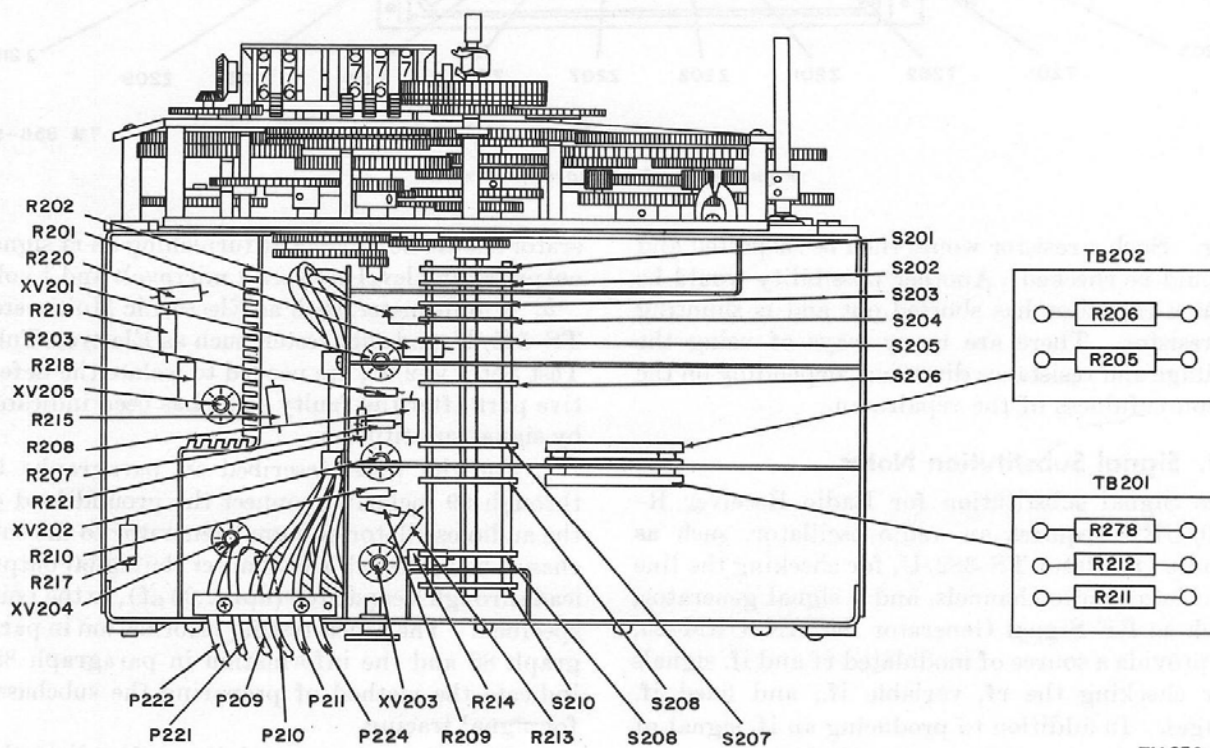

Figure 64. Rf subchassis, bottom view.
c. The calibration-oscillator signal can be used as a convenient means of quickly localizing trouble in the receiver. Typical methods are described in (1) and (2) below.
- (1) To check the contacts of the rf band switch (S201 through S210) (fig. 64) and crystal-oscillator band switch (S401 through S404) (fig. 66), connect a headset to the PHONES jack on front panel. Set the FUNCTION switch at CAL. Set the KILOCYCLE CHANGE control to any 100-kc position. Starting with the lowest detent position of the MEGACYCLE CHANGE control, turn the control to each detent position in succession. Adjust the BFO PITCH control as necessary to obtain a signal in the headset. If no audible signal is heard in a detent position, trouble in contacts of the rf band switch or crystal-oscillator band switch is indicated.
- (2) The LINE LEVEL meter, LINE METER switch, and LINE GAIN control are checked as follows: connect a headset to the PHONES jack on the front panel and adjust the KILOCYCLE CHANGE control for an even 100-kc reading on the dial. Set the FUNCTION switch at CAL and turn the BFO
a. *Pin 1 of V205 (Plate of Third Mixer).* Introduce the 455-kc modulated signal at pin 1 of tube socket XV205 (fig. 64). If no signal is heard, check transformer T207 and the signal connections to the if. subchassis.
to test point E210 (fig. 62). If no output signal is heard, connect an antenna or a 2-mc signal source to the antenna terminals of the receiver, and, at the same time, apply a strong 2,455-kc unmodulated signal to pin 7 of tube socket XV205 (fig. 64). The reception of static or signal when the 2,455-kc signal is substituted for the receiver oscillator signal indicates a faulty vfo. To check for injection voltage from the vfo, set the FUNCTION switch at STANL BY, and measure the dc voltage using the vtvm at test point E210 (fig. 62). The voltage should be between 3 and 11 volts dc. (This is a reference voltage only.) This voltage is present because tube V205 is rectifying the vfo oscillator signal. If the voltage is within these limits, injection voltage from the vfo is available. Measure the amount of injection voltage from the vfo by disconnecting P723 (fig. 88) and connecting the ac probe of Electronic Multimeter TS-505/U to the
c. *Pin 1 of V204 (Plate of Second Mixer).* With the FUNCTION switch at MGC, apply the modulated 2-mc signal to pin 1 of tube socket XV204 (fig. 64). A weak output signal may indicate that plate resonant circuits Z222, Z223, and Z224 are not synchronized with the other tuning circuits (par. 110a) or are not individually aligned correctly.
modulated signal to pin 1 of tube socket XV203 (fig. 64). If the output signal is weak, check the synchronization of the first if. slug rack and the first if. can rack. Alinement of the individual
g. Pin 5 of V202 (Plate of Second Rf Amplifier). With the FUNCTION switch at MGC, apply a 2-mc modulated signal to pin 5 of tube socket XV202 (fig. 64). If the output is abnormal, check the tuning circuits that couple the plate of the second rf stage to the grid of the first mixer and band switch section S208 (fig. 64).
i. Pin 5 of V201 (Plate of First Rf Amplifier). Apply the 2-mc signal to pin 5 of tube socket XV201 (fig. 64). If the output signal is weak, inspect the tuning circuits that couple the plate of the first rf stage to the grid of the second rf stage and band switch section S206 (fig. 64). Check voltages.